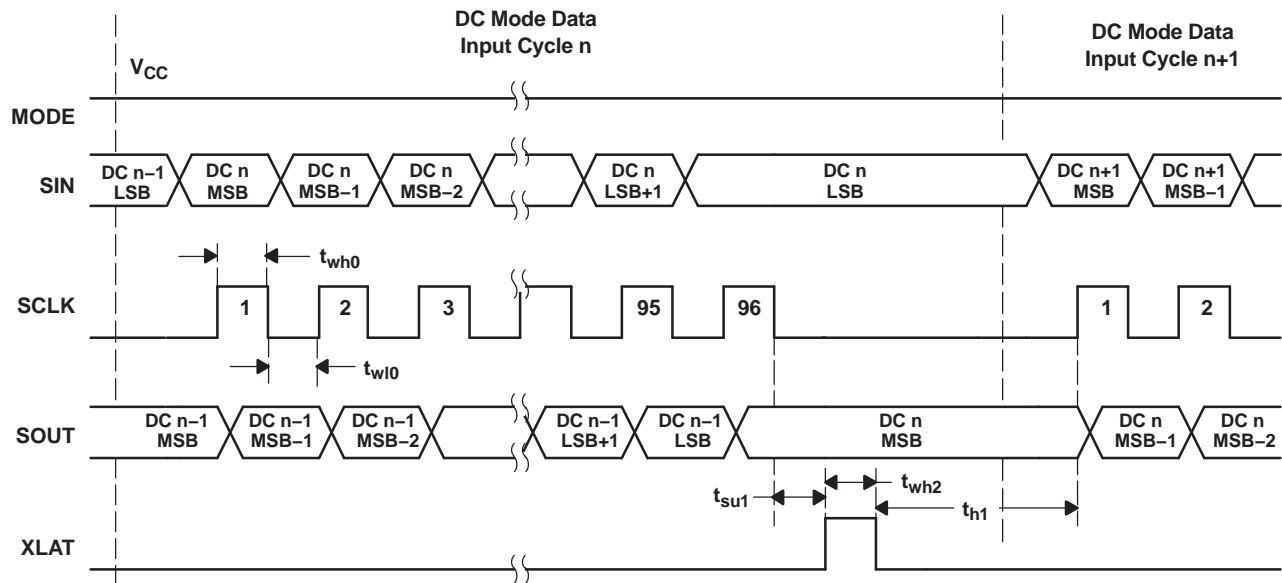

**Figure 19. Dot Correction Data Packet Format**
**Figure 19** shows the dot correction data packet format which consists of 6 bits x 16 channel, total 96 bits. The format is Big-Endian format. This means that the MSB is transmitted first, followed by the MSB-1 and so on. The DC 15.5 in **Figure 19** stands for the 5th-most significant bit for output 15.